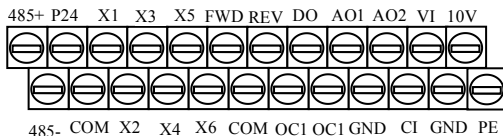

Fig.3-7 CN2 terminal order
#### (2) Control Circuit CN2 terminal shown as Fig.3-7